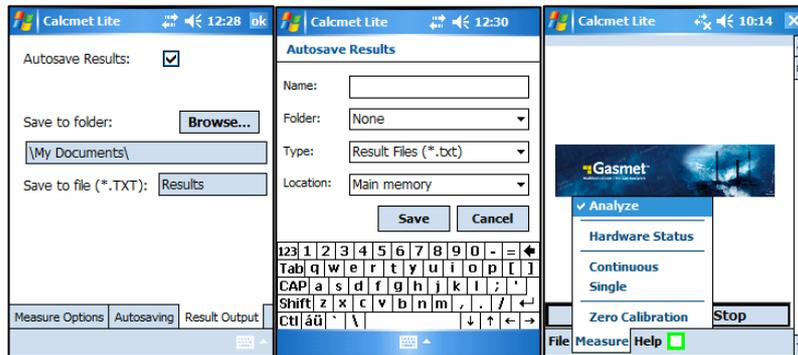

Figure 17. Save result file.
- Store the measurement results as a text file (*.txt) (Figure 17). Go to File → Settings → Result Output tab → Check Autosave Results. Click “Browse...” to specify the folder and the name given to the saved result files. Use the “built in” keyboard to enter the spectrum name. Be sure that the analysis is switched ON. Go to Measure and check Analyze.